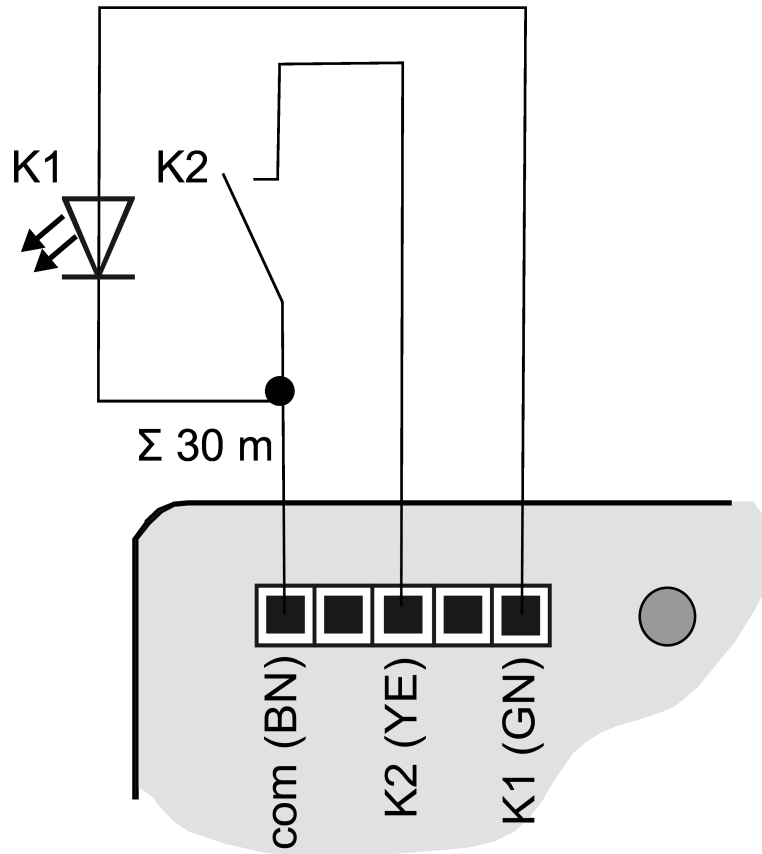
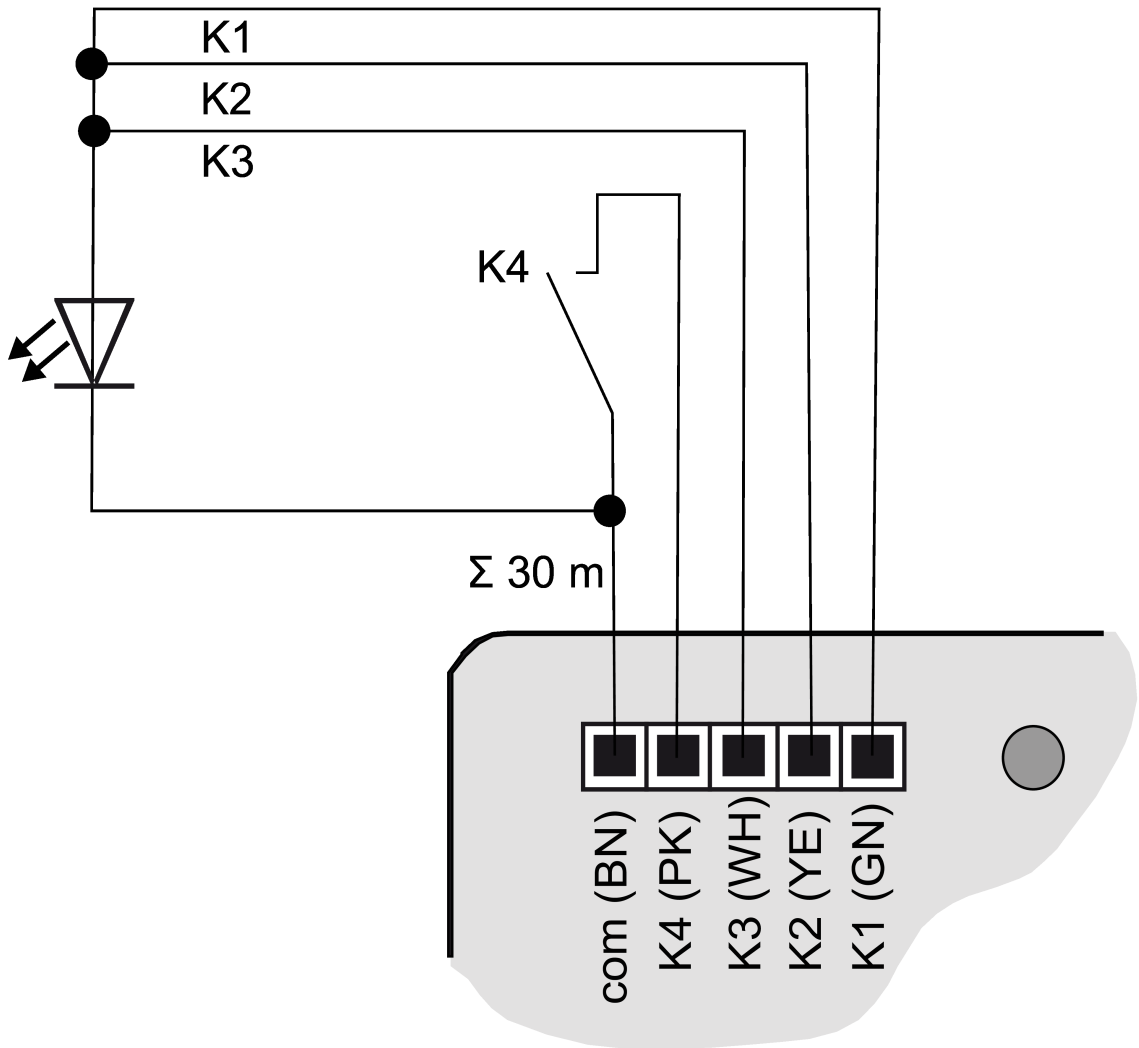

Figure 6: Connection example: push-button interface 2-gang
Figure 10: Connection example with outputs switched in parallel
- Connect push-buttons, switches, contacts, LED or NTC to enclosed connecting cables (4) according to the connection examples; (see figure 6) to (see figure 10). The connection examples show the use with inputs and outputs.
- i** To increase the output current, outputs can also be switched parallel to each other with the same parameterization; in the example here, (see figure 10) K1-K3 are switched in parallel.